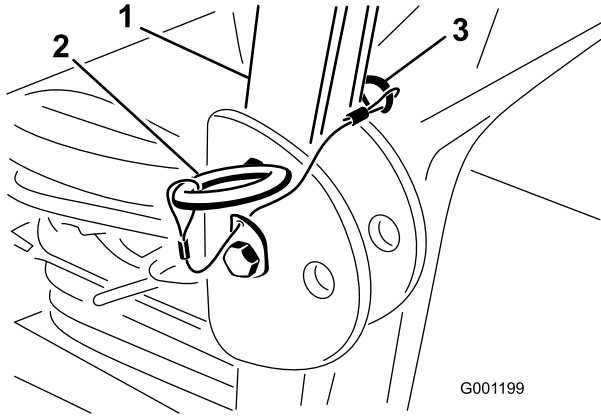

Figure 7
1. With the roll bar in the raised position, remove the hairpin cotters and the 2 pins (Figure 7).